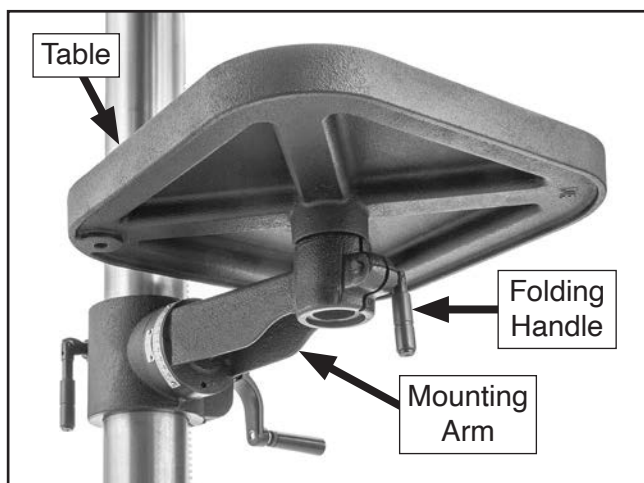

Figure 22. Table and table swivel lock handle installed (T33961 shown).
8. Insert table shaft into table mounting arm (see **Figure 22**), and thread M10-1.5 x 35 folding handle into table bracket until table is secure.